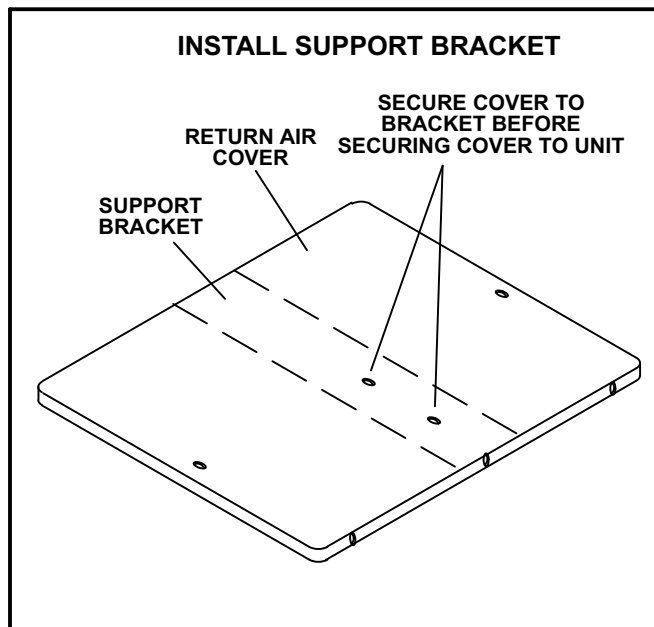

FIGURE 7
- 6- Secure return air panel to the support bracket using screws provided. See figure 7.